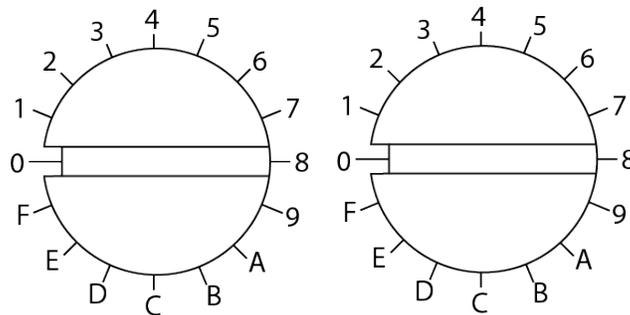

Figure 3-9 Hex Switch "00" Position
The default setting for the switches is "00" (**Figure 3-9**). In this switch position, the UEI-PIO-1010 uses the software-configured IP address.
- STEP 1:** Verify that the two hex switches on the front panel are set to “00” (**Figure 3-9**).